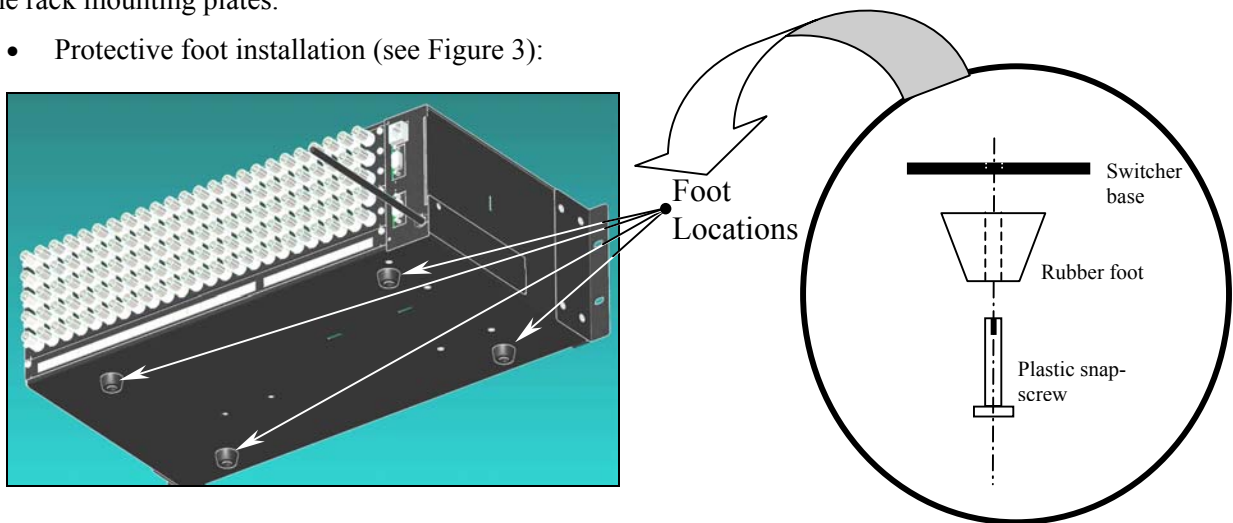

FIGURE 3: Rubber Foot Installation
- Protective foot installation (see Figure 3):